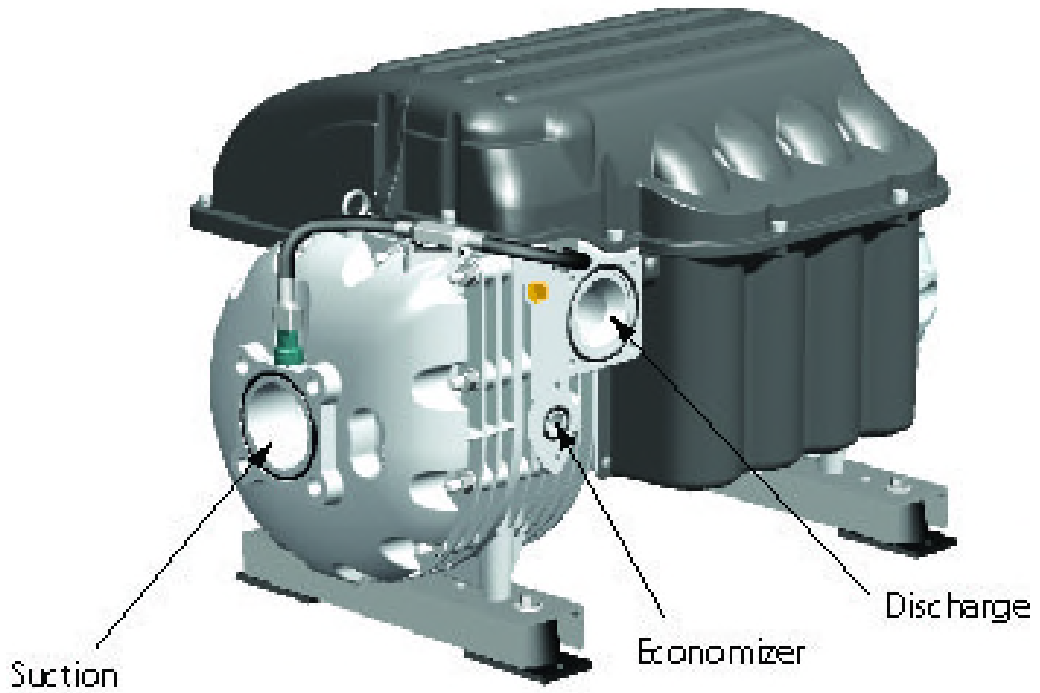

Figure 1
7. Assemble the four (4) sets of new screws and lock washers.
8. Align the suction valve/flange with the compressor suction port (see Figure 1) and insert the four (4) screws. Fingertighten the screws and then torque, in a diagonal pattern, to 30 Nm (22.1 ft.lb.).